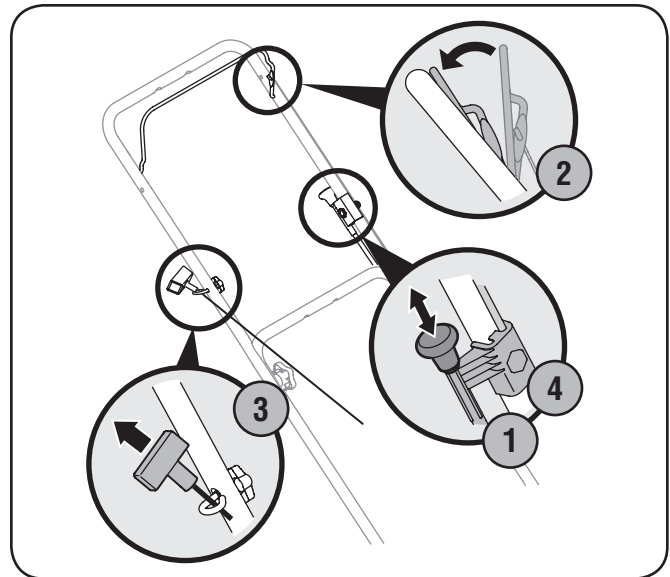

Figure 5-1
1. Pull out the choke knob located on the left side of the upper handle. See Fig. 5-1.
3. Pull the recoil starter lightly until resistance is felt, then pull rapidly to overcome compression, prevent kickback, and start the engine. See Fig. 5-1. If engine does not start after ten seconds of repeated pulls, wait a few minutes and repeat.